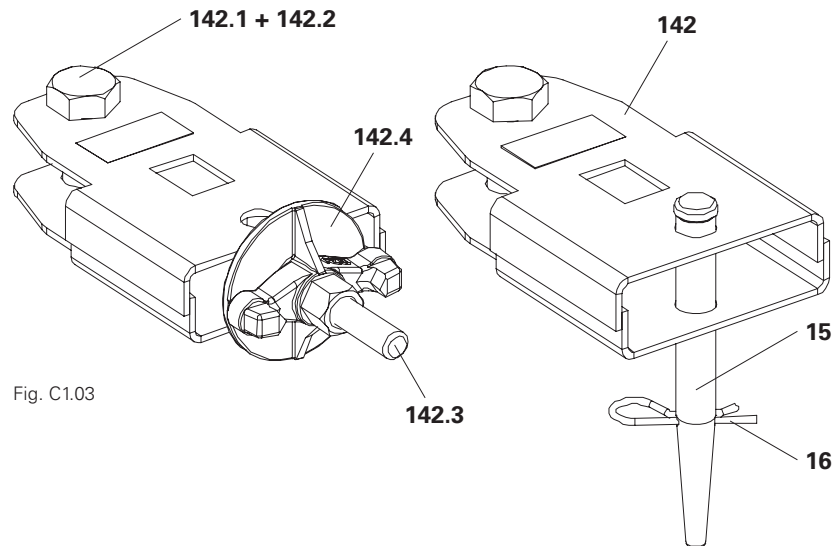

Fig. C1.03
- If the Wingnut Counterplate DW 15 (142.4) collides with the strongback, the Clamp Adapter MX/TR – SRU (142) can be fitted using filler pins Ø 21 x 120 (15) and cotter pins 4/1 (16). (Fig. C1.03)